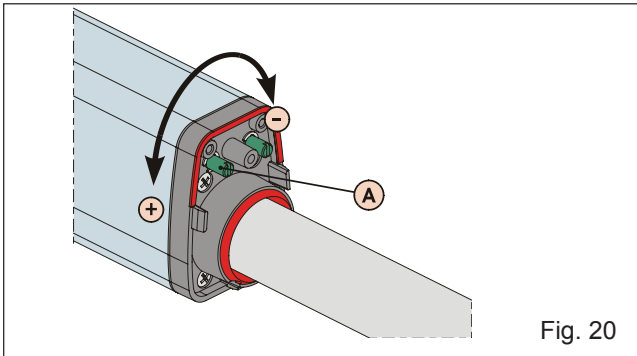

Fig. 20
3. To adjust the opening limit switch FCA, turn the adjusting screw counter-clockwise (Fig. 20 Ref. A) to increase rod stroke and clockwise to reduce it.